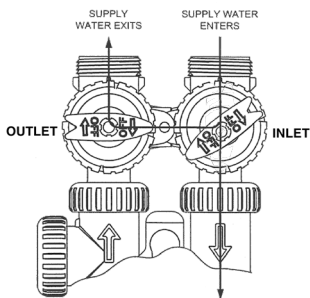

FIG. 4
- 4. Diagnostic Position**— The inlet handle arrow points toward the unit to allow water pressure to flow into the control valve. The outlet handle remains closed, pointed toward the center of the bypass. (See Fig. 4 below) This is helpful to have water run through the system without it affecting the rest of the building.